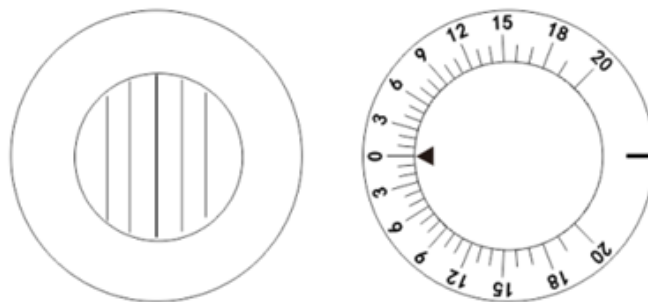
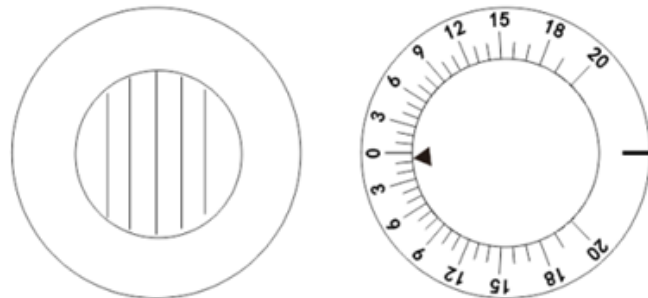

Fig.48
Fig.49
b. Then measure vertical phoria. As shown in Fig.48, turn auxiliary lens knob ②1 and set MR_{RV} for the right eye. Turn rotation prism lens ⑫ to set the left eye at horizontal position. Now Testee can see red horizontal line with the right eye, and the light spot with the left eye. Then using same procedure of a, ask Testee when he can see red line and light spot meet while turning prism lens rotation knob ⑪. When it is shown as Fig.49, Testee reports they meet, it is 0.5, below 0, indicating left eye is 0.5 Δ D, called 0.5 Δ upward heterophoria.